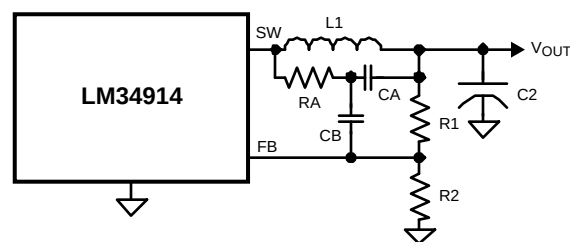

Figure 6. Minimum Output Ripple Using Ripple Injection
c) Alternate minimum ripple configuration: The circuit in Figure 6 is the same as that in the Block Diagram, except the output voltage is taken from the junction of R3 and C2. The ripple at V_{OUT} is determined by the inductor's ripple current and C2's characteristics. However, R3 slightly degrades the load regulation. This circuit may be suitable if the load current is fairly constant.